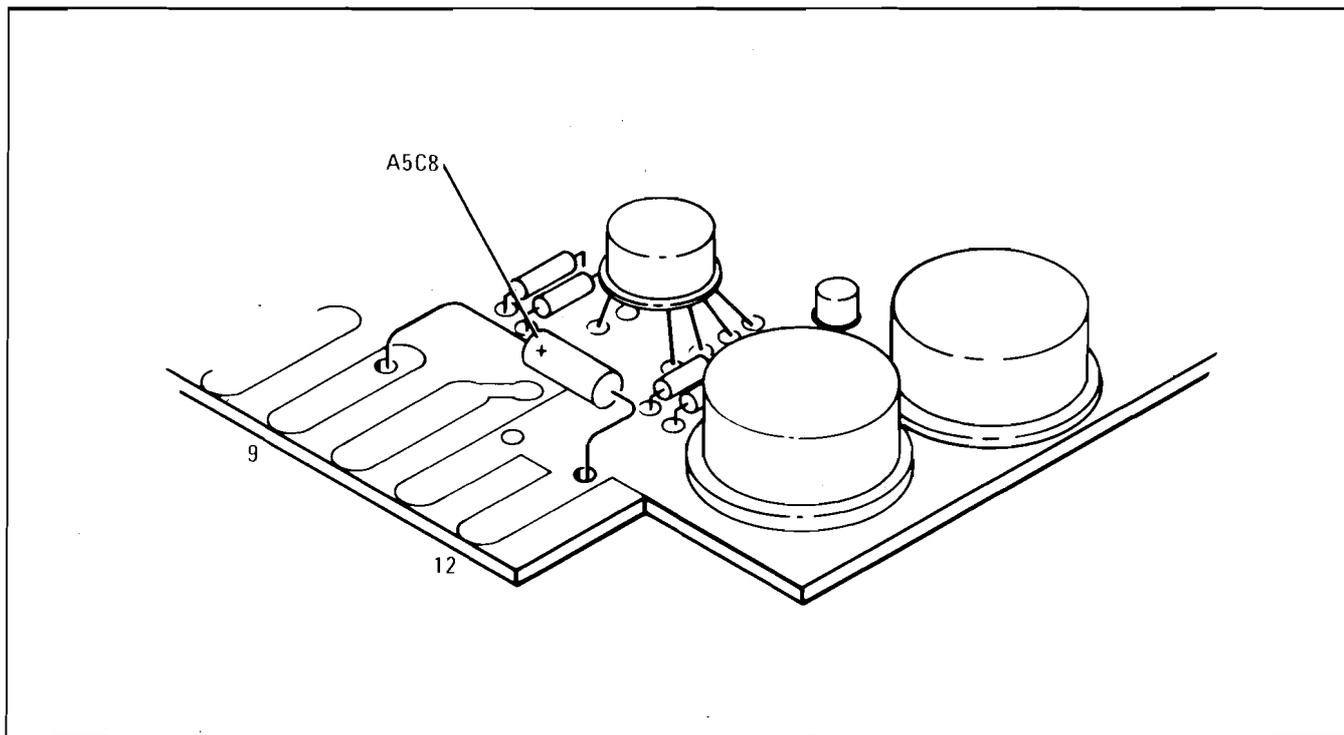

Figure 7-2. Capacitor Installation
2. Form the leads of the 1 μ F capacitor, C8, to fit through the plated-through holes at edge connector pins 9 and 12 (see Figure 7-2). The capacitor leads should be long enough to keep the capacitor body completely clear of the edge connector.